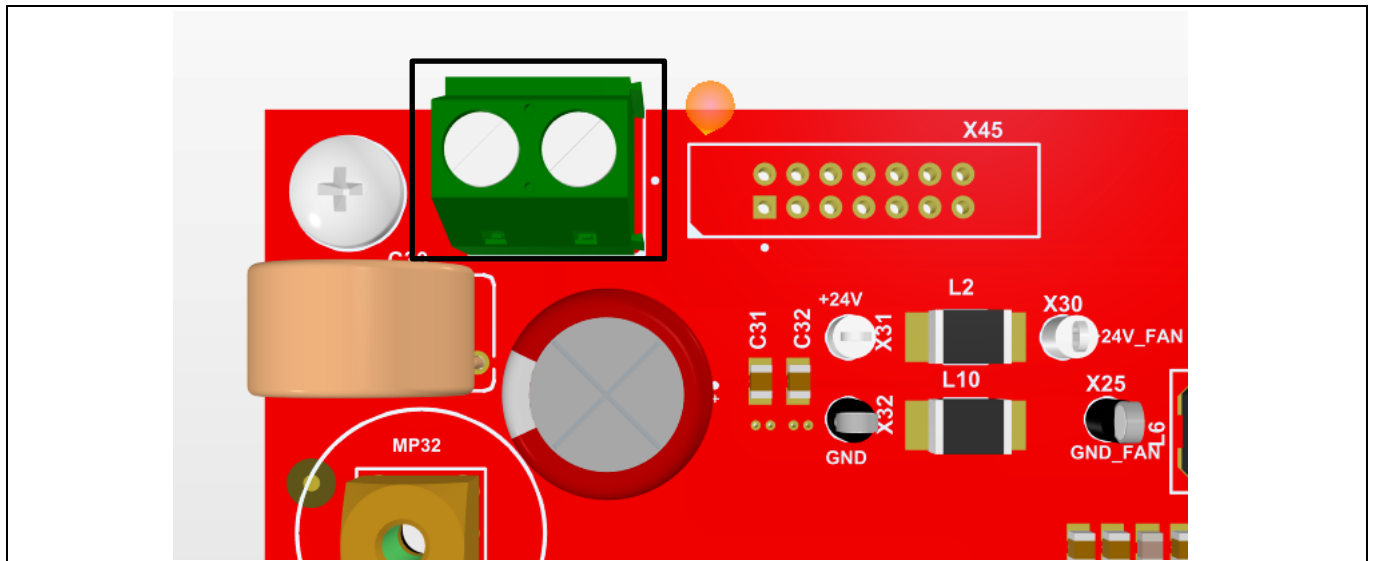

Figure 37 X31 and X32 for connection to external 24 V
2. Connect an external 24 V power supply to the HERIC board via X23 (Figure 37).